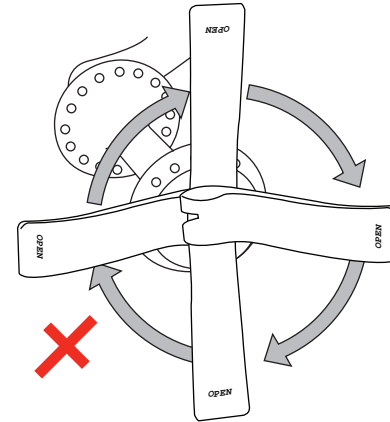

Figure 41. Do not turn the lever in a circle
- Do not turn the lever in a circle to increase the quick-release tension (Figure 41); this will not correctly hold the wheel in its location.